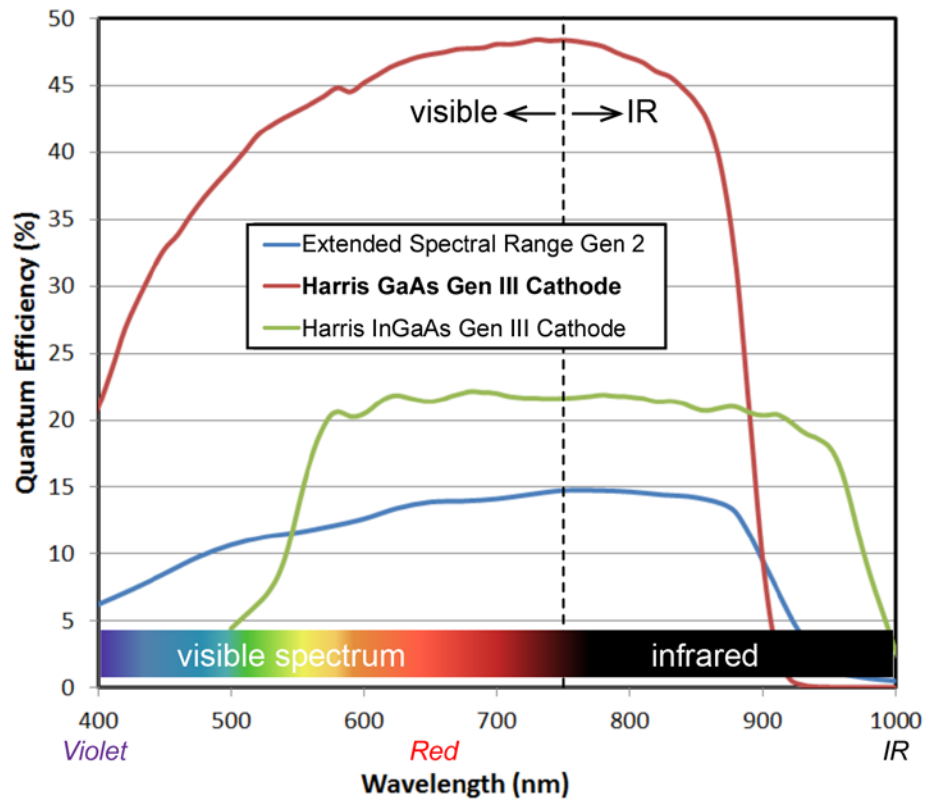

Figure 1. Quantum efficiency curve of extended range Gen 2, GaAs Gen 3, and InGaAs Gen 3 photocathodes
While PR is an important aspect of the photocathode sensitivity, PR is dependent not only on overall input light levels but also the wavelength components of that light. An image intensifier's wavelength-dependent quantum efficiency must be considered with particular regard to the visible red and near infrared (IR) portions of the color spectrum. Together these wavelengths make up a greater component of the night sky as compared to a sunlit sky. Daytime light is more evenly distributed across the entire visible spectrum, but as the evening sky darkens to night, the dwindling ambient light shifts comparatively toward the more persistent red and infrared wavelengths. Therefore, it is very important for an image intensifier to cover a broad spectral range extending into the near infrared, i.e. wavelengths longer than 770 nm. Overall, Gen 3 spectral range covers from 400 nm (the transition zone between visible violet and ultraviolet light) to just past 900 nm (well into the near IR spectrum) at room temperature, as seen in Figure 1.
Gen 2 intensifiers have been introduced with extended spectral range at less than 400 nm to 1000 nm, also shown in Figure 1. However, having a large response in the near UV range is generally not beneficial to a tactical night vision system for two reasons:
(Note: Figure 1 above includes a PR curve for a Gen 3 tube made by Harris that uses an InGaAs photocathode with extended spectral range beyond even that of the extended range Gen 2 photocathodes. By adjusting the Indium composition in an InGaAs photocathode, a Gen 3 tube with a cutoff wavelength similar to the extended range Gen 2 can be fabricated, and would result in quantum efficiency between that of the GaAs and InGaAs curves shown in Figure 1.)
The makers of the extended spectral range Gen 2 image intensifiers contend that their new photocathode offers increased sensitivity compared to the standard Gen 3 GaAs photocathode. To support this claim, they have introduced a new mathematical metric called “spectral SNR.” However, there is no physical underlying basis for this parameter. It appears to be calculated based on a normalized quantum efficiency curve, like that in Figure 1 above, multiplied by the SNR of the image intensifier. But in fact, normalizing the quantum efficiency curves to the peak wavelength response of each type of cathode *hides the difference in the quantum efficiencies* of the Gen 2 and Gen 3 photocathodes. It masks the truth that Gen 3 has much better PR than Gen 2, especially in the all-important red and near-IR portion of the spectrum.